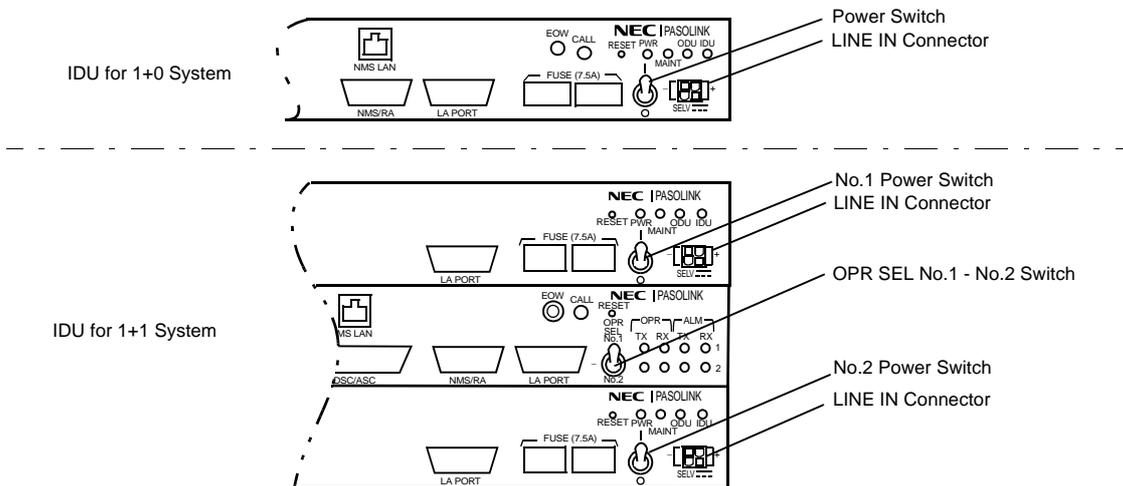

Fig. 8-1 Front View of the IDU for Powering Up
- Turn on the POWER switch on the IDU (refer to Fig. 8-1),